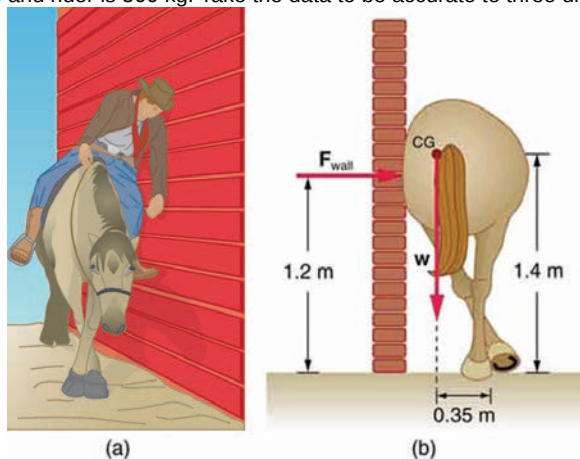

Figure 9.31
- Suppose a horse leans against a wall as in **Figure 9.31**. Calculate the force exerted on the wall assuming that force is horizontal while using the data in the schematic representation of the situation. Note that the force exerted on the wall is equal and opposite to the force exerted on the horse, keeping it in equilibrium. The total mass of the horse and rider is 500 kg. Take the data to be accurate to three digits.
- (a) Calculate the magnitude and direction of the force on each foot of the horse in **Figure 9.31** (two are on the ground), assuming the center of mass of the horse is midway between the feet. The total mass of the horse and rider is 500 kg. (b) What is the minimum coefficient of friction between the hooves and ground? Note that the force exerted by the wall is horizontal.